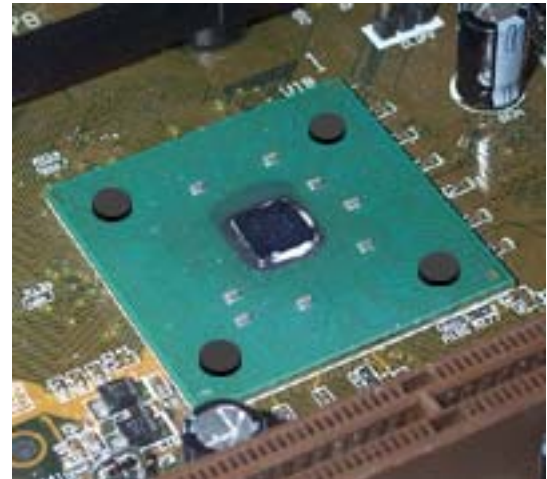

Figure 8
- ☐ Install the 4 neoprene pads as shown figure 8. This step is only necessary if the processor core is exposed. **If the chipset features a heat spreader (a large lid covering the entire area of the chipset), then the neoprene pads MUST not be installed.**